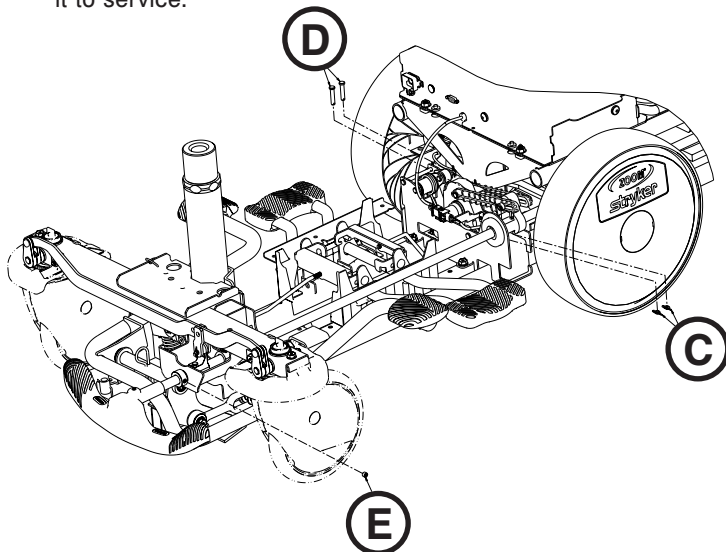

Figure 16
8. Using a 5/32" hex wrench, loosen the set screw on the head end brake rod stop collar (E) (Figure 16).